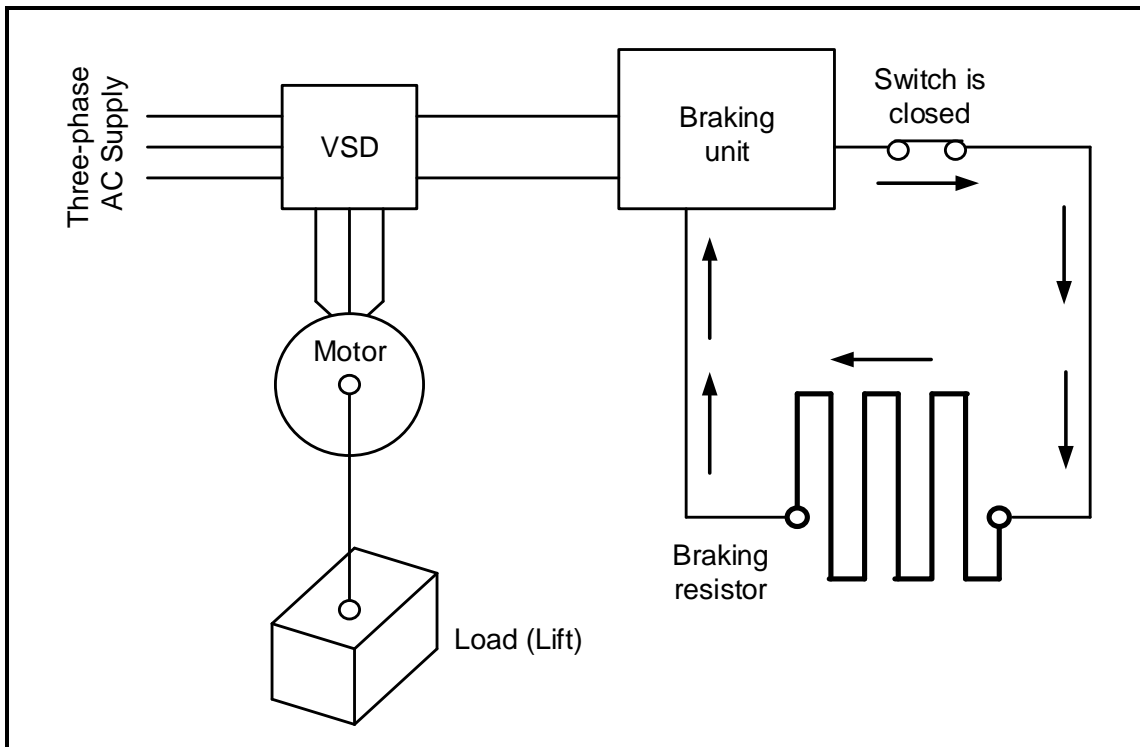

FIGURE 6.14
6.14 Refer to FIGURE 6.14 below and answer the questions that follow.
- 6.14.1 Identify FIGURE 6.14. (1)